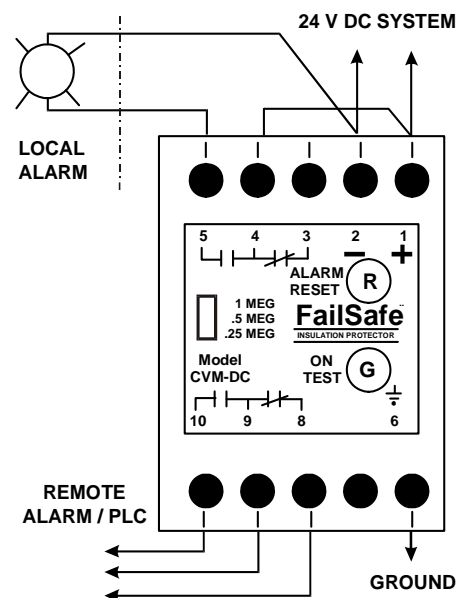

Fig.2
2. Connect terminal 1 to the positive line, terminal 2 to the negative line and terminal 6 to ground (see Fig. 2 below).